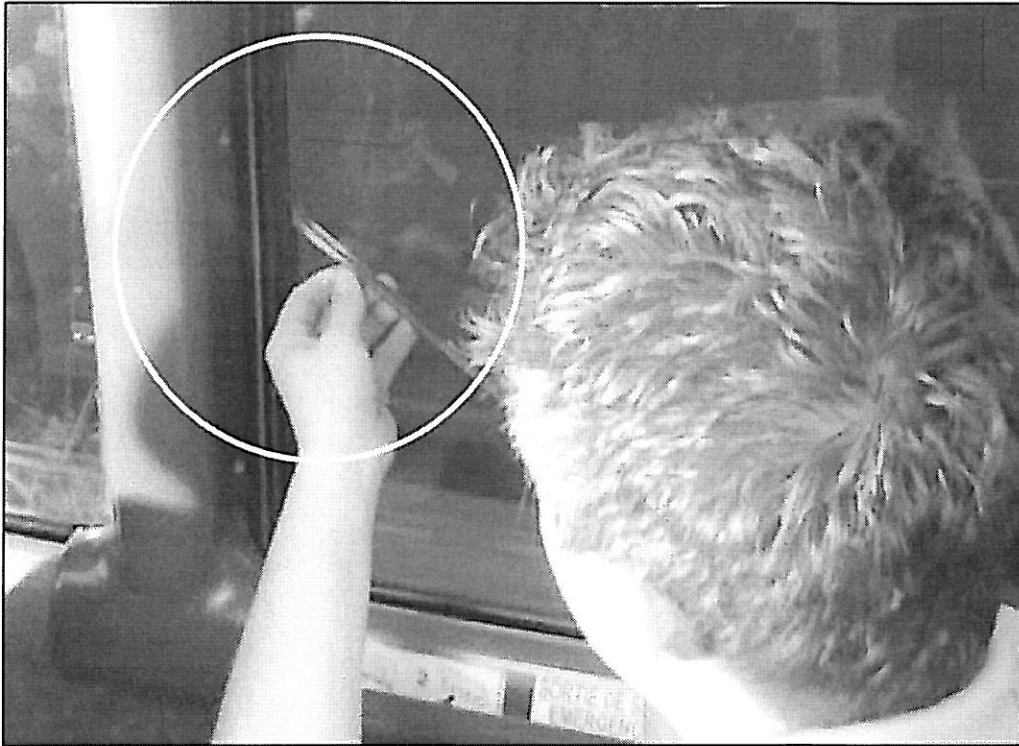

Figure 2.
- Using a hook tool, remove the interior seal (from inside the coach cabin) from the de-bonded window by positioning the hook between glass and seal (refer to Figure 2). Pull up on the hook and turn counter-clockwise to remove seal from channel.